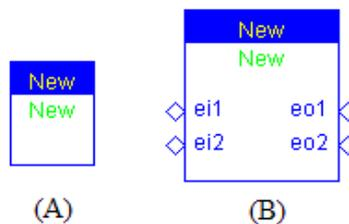

FIGURE 4-26 MODEL INTERFACES: (A) DEFAULT INTERFACE, AND (B) INTERFACE WITH PORTS
As illustrated in the above figure, Figure 4-26 (A) shows the default interface when a new NCES model is created. The interface consists of two names: the top *Instance Name* in yellow and the
bottom *Type Name* in green. When ports are added to the model, only their user defined names will be displayed on the interface as illustrated in Figure 4-26 (B).